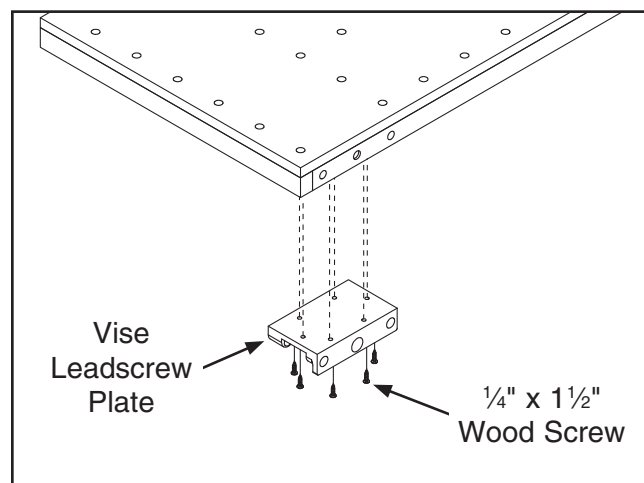

Figure 6. Vise leadscrew plate aligned with the underside of table and holes in the table edge.
- Position the vise leadscrew plates underneath the table and align their holes with those in the table edges, then secure them in place with the $\frac{1}{4}$ " x $1\frac{1}{2}$ " wood screws, as shown in **Figure 6**.